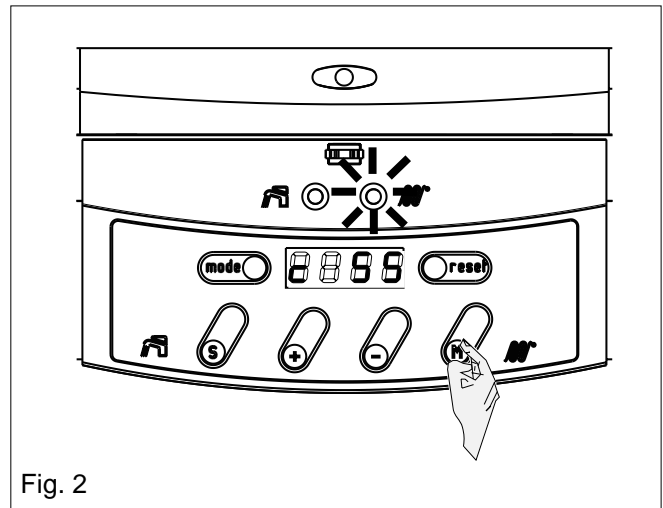

Fig. 2
To switch the heating mode ON or OFF, press and hold the  button (fig. 2) whilst looking at the digital display:
- the operating temperature will be shown on the right side of the display (see fig. 2);